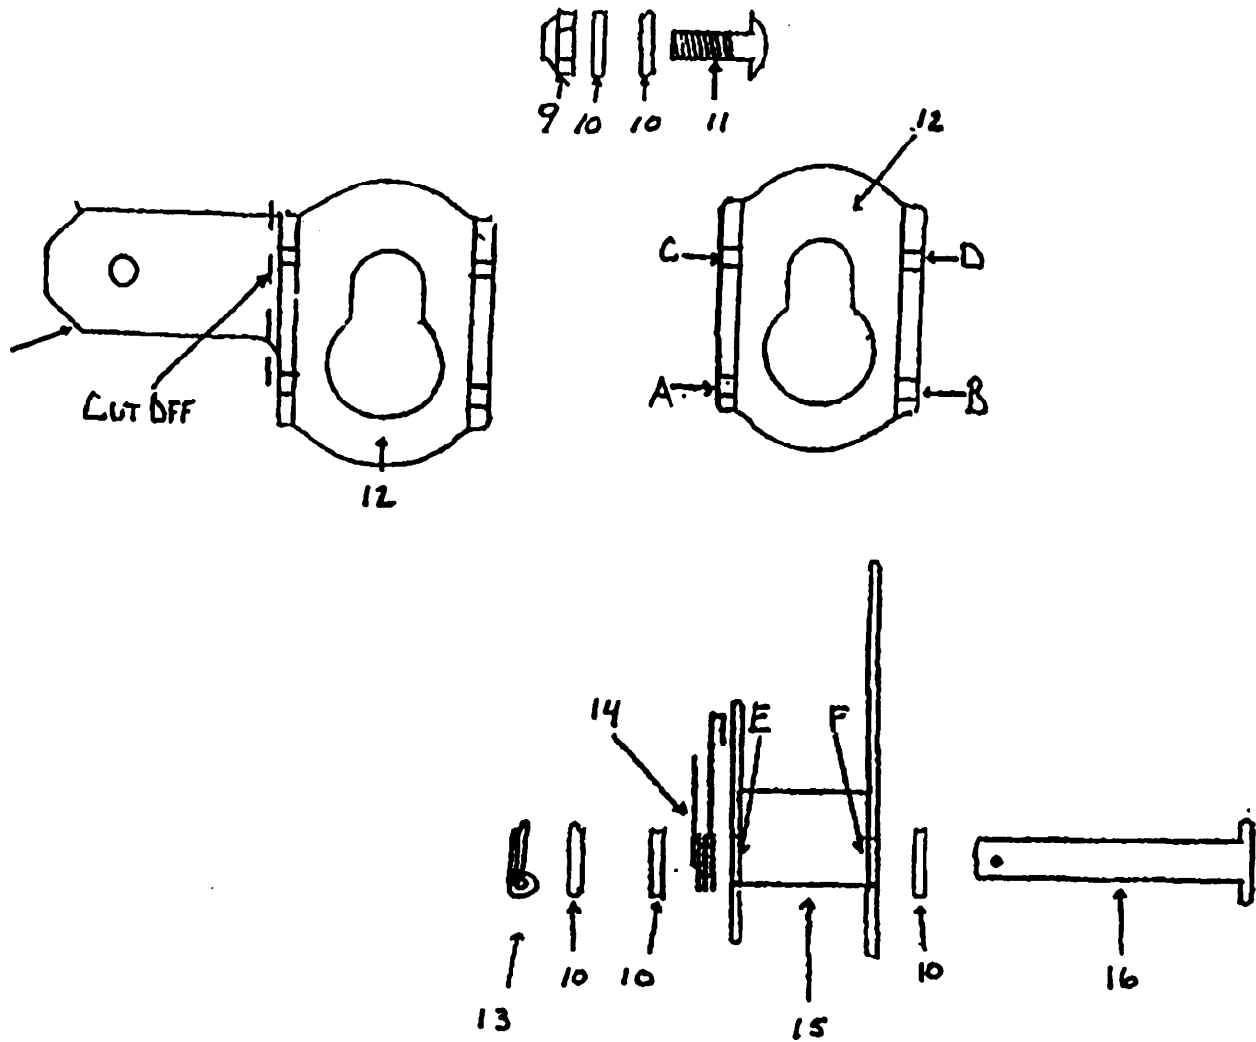

Figure E-2A
- c. The base should resemble the diagram in figure E-2A after the wing has been removed. Lay the base on a flat surface with the holes A and B facing toward you.